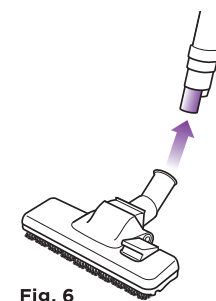

Fig. 6
- 1 Push the bare floor nozzle onto the end of the telescopic tube until it is firmly in place. (Fig. 6)